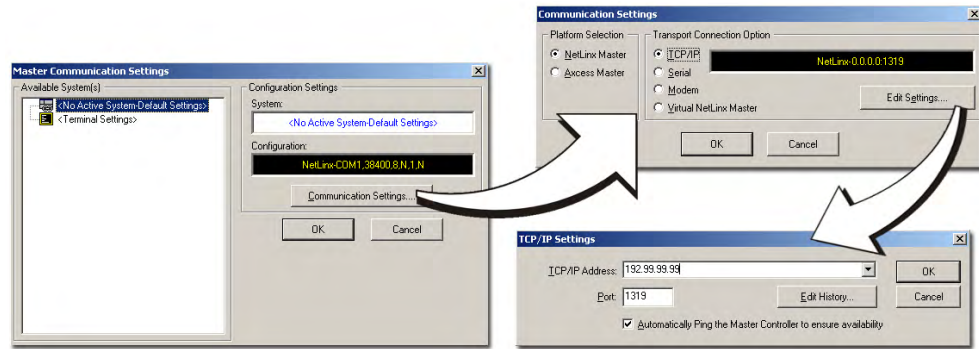

FIG. 28 Assigning Communication Settings and TCP/IP Settings
3. Select **Settings > Master Communication Settings** from the Main menu to open the Master Communication Settings dialog (FIG. 28).
7. Click the **Edit Settings** button (*on the Communications Settings dialog*) to open the TCP/IP Settings dialog (FIG. 28).